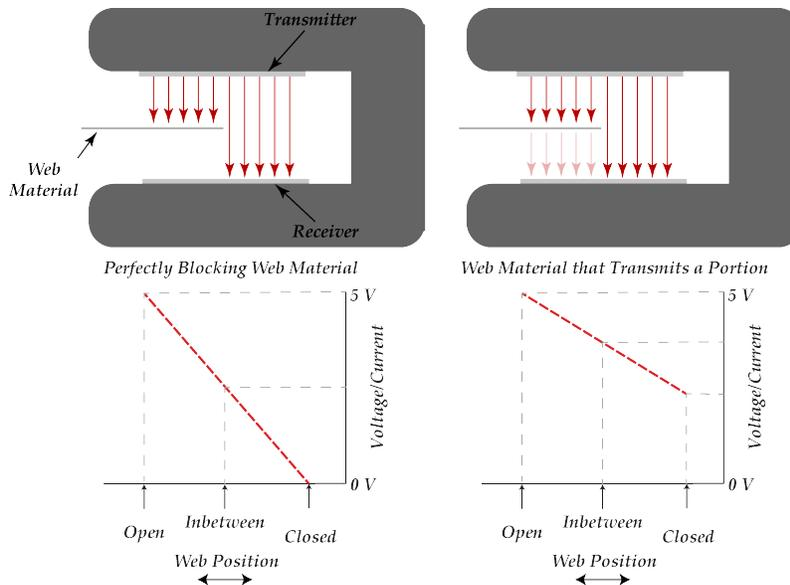

Figure 2: Material Dependence of Conventional Sensors
- **Material Dependency:** Materials that partially transmit the sensing signal (light, sound, or air) produce inconsistent results. Transparent materials, porous webs, or materials with variable opacity can cause measurement errors that require complex calibration procedures (see Figure 2).